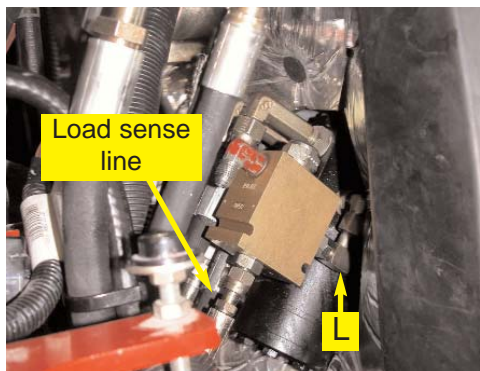

Figure 8c. Installed load sense valve.
d. Install port B (fitting (L)) of the load sense valve to load sense port on the orbital. Reattach the load sense line to port A (fitting (J)) of the load sense valve. (Figure 8c.)